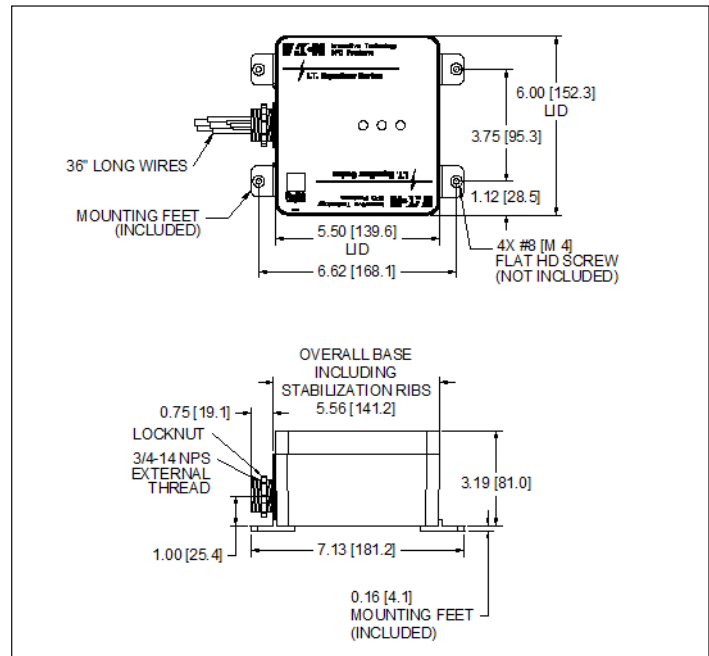

Figure 4. P1 Enclosure w/Mounting Feet Dimensions.
2. Verify that there is enough space to install the Equalizer 2 device. See Figures 4 & 5 for dimensions.
The mounting feet attach to the bottom of the enclosure with the provided screws (hardware to mount the feet to wall are not included). See **Figure 4 and 5**.